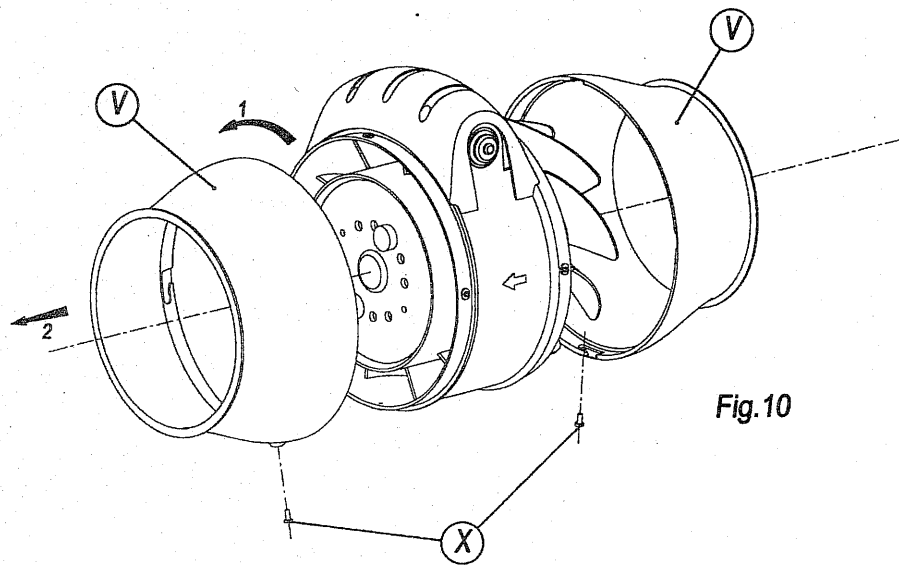

Fig.10
- If you wish the appliance to work only at high speed (HV), see the connection sketch in fig. 10.
- Then the two reducer tubes (V) must be removed following the steps set out below (see fig. 10):
- 1- Loosen the screw (X).
- 2- Turn the reducer tube (V) about 9° anticlockwise (arrow 1).
- 3- Pull the reducer tube (V) out (arrow 2).